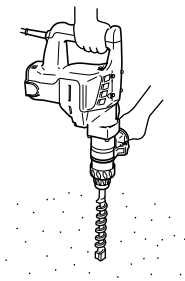

Fig. 9
- (d) Switch the selector lever to "hammering" according to the procedures mentioned in the above item (1) and secure the position of the tool.
5. Warming up (Fig. 9)